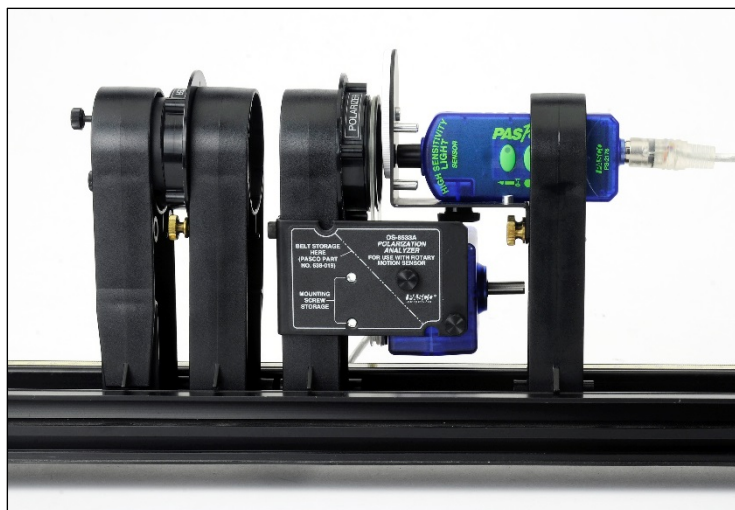

Figure 7: Setup with Components in Position for Experiment
8. Push all the components on the Optics Track as close together as possible. See Figure 7. The aperture disk on the light sensor should not touch the Polarization Analyzer.